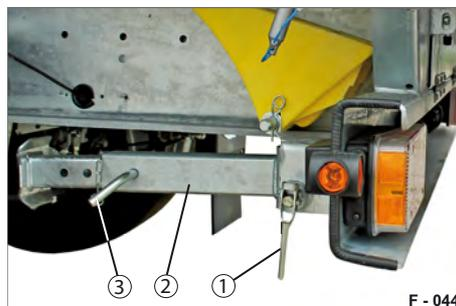

Fig. 67 Drive position
- ▶ Check that both folding supports are in drive position before departing (see Fig. 67).